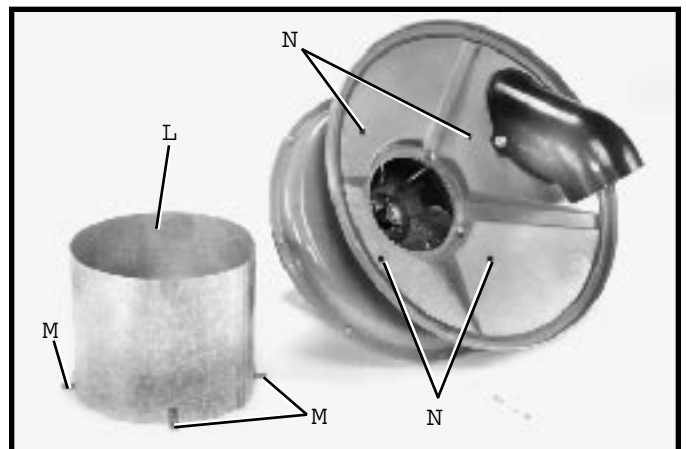
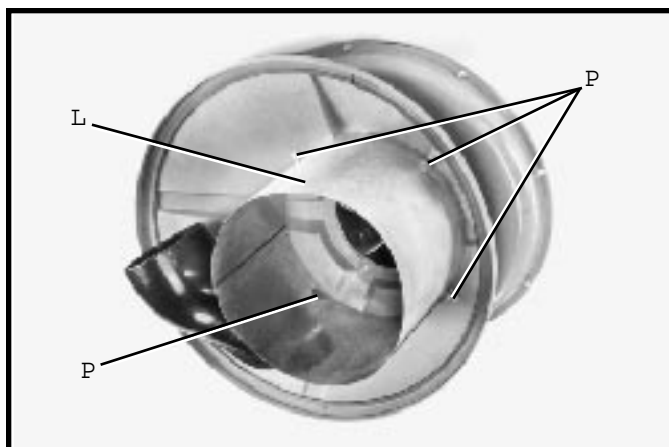

Fig. 9
Fig. 10
6. Place the sheet metal cylinder (L) Fig. 9, onto the underside of the cover. Align four holes in cylinder bracket, three of which are shown at (M), with four holes (N) in the underside of cover and fasten with four 1/4-20 x 5/8 hex head screws, lockwashers, and locknuts (P) Fig. 10. NOTE: Assemble screws from the top of the lid downward. CAUTION: Sheet metal cylinder (L) is extremely sharp; use protective gloves when assembling the sheet metal to the underside of the lid.